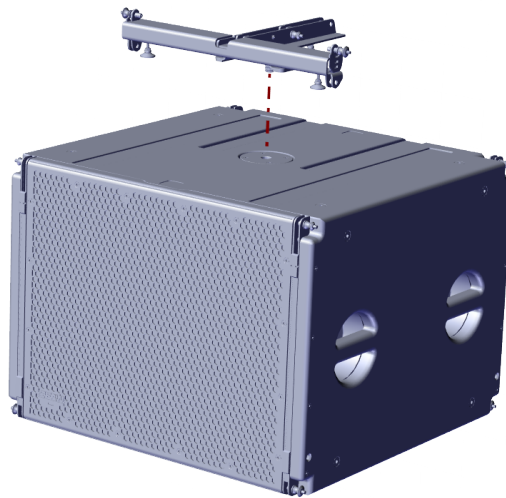

Figure 15
2. Place flybar assembly on top of a supported EAW subwoofer (SBX118F, SBX218, RS115, RS118, RSX18F) and line up mount to threaded M20 pole cup on the cabinet (Figure 15). Secure by turning clockwise until fully tightened and oriented in the correct location. **NOTE: Use feet on flybar frame for improved stability.**